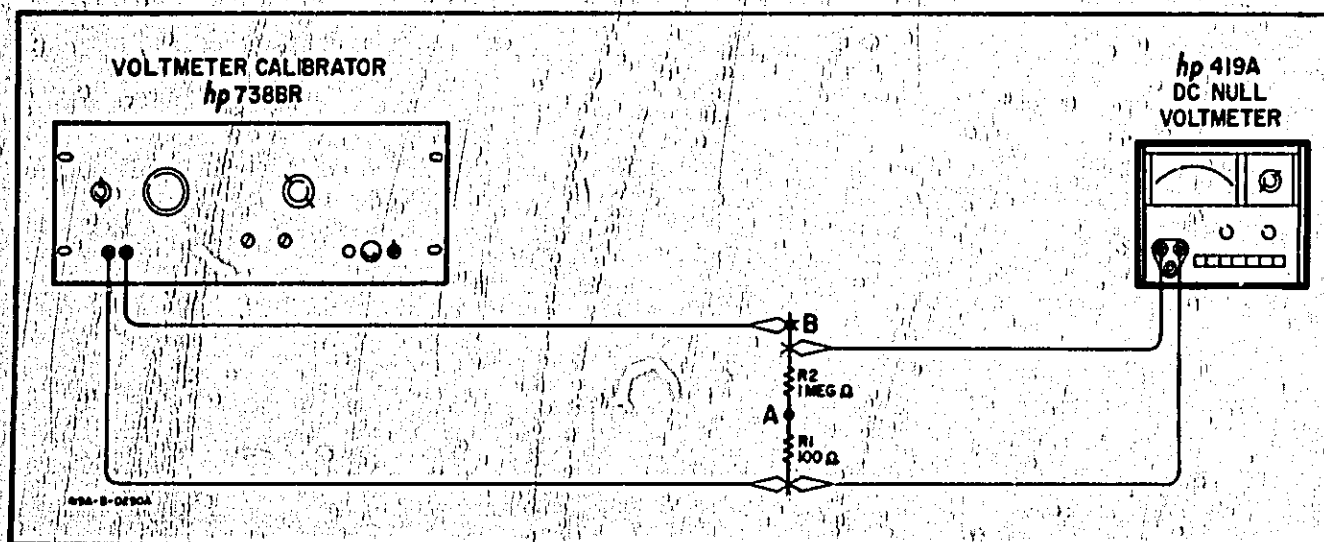

Figure 5-1. Voltmeter Accuracy Performance Test Setup
5-8. The voltmeter accuracy performance test setup is illustrated in Figure 5-1. A voltmeter calibrator (-hp- Model 738BR), a 100 Ω resistor (-hp- Part No. 0811-0398), and a 1 M Ω resistor (-hp- Part No. 0811-0473) are required for this test.
- Connect test setup illustrated in Figure 5-1.
- Construct test setup illustrated in Figure 5-1; turn voltmeter calibrator dc output off and set for 30 mV output; connect 419A + INPUT terminal to Point A.